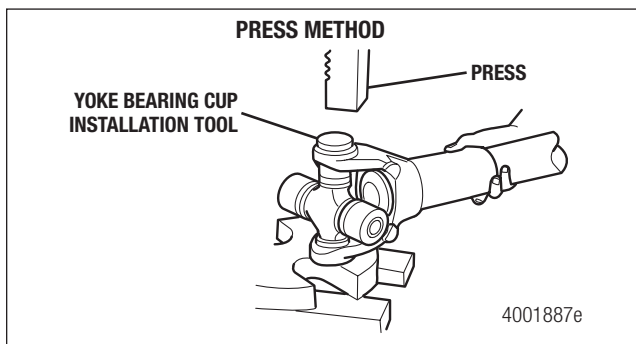

Figure 5.19
3. Use an appropriate press to install the first bushing slightly past the snap ring groove. Figure 5.19.
6. Use an appropriate press, yoke bearing cup installation tool or universal joint press to install the second bushing slightly past the snap ring groove. Check that the bushing is aligned with the universal joint. Figure 5.19.